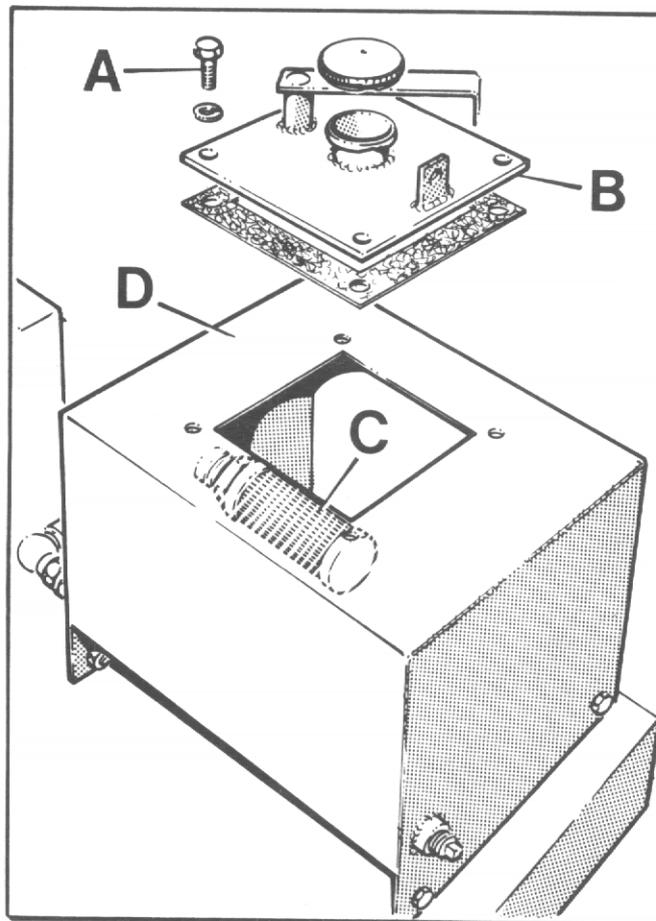

FIG. 7
2. Check the hydraulic filter is not blocked (See Fig. 7)
- a) Remove the four setscrews (A) that secure the filler cap assembly (B) and remove assembly.
- b) Unscrew suction filter (C) from inside tank (D) and wash in white spirit. Dry with moisture-free compressed air.